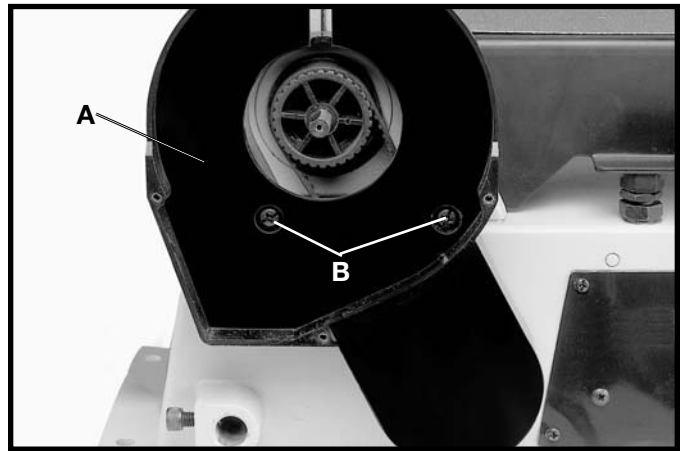

Fig. 5
Assemble the belt and pulley guard (A) Fig. 5, to the machine base using the two M6x1x30mm cheese head screws (B), as shown.